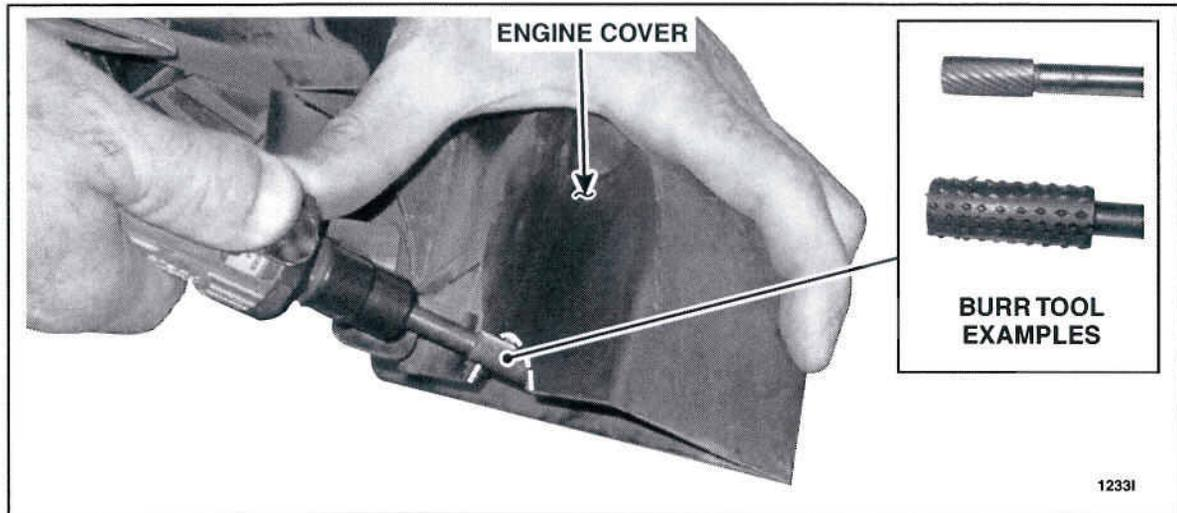

FIGURE 5
- Using a rotary burr tool, modify the engine cover by increasing the opening over the drive belt tensioner to the previously made guide line. See Figure 5.